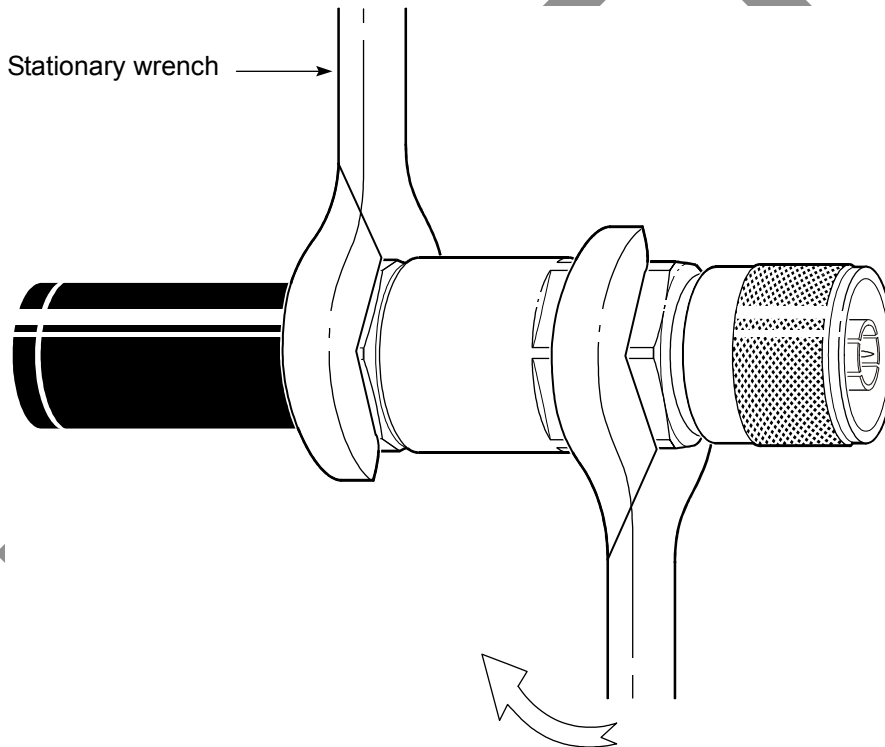

Figure 68 – Assembling the connector
14. Add the outer connector body to the clamping nut and pin. Hold the clamping nut stationary with one wrench, and thread the connector body onto the clamping nut with another wrench; see *Figure 68*. Do not turn the clamping nut, only turn the connector body. Tighten to 1.9 to 2.4 Nm (16.8 to 20.8 in.-lb) of torque.